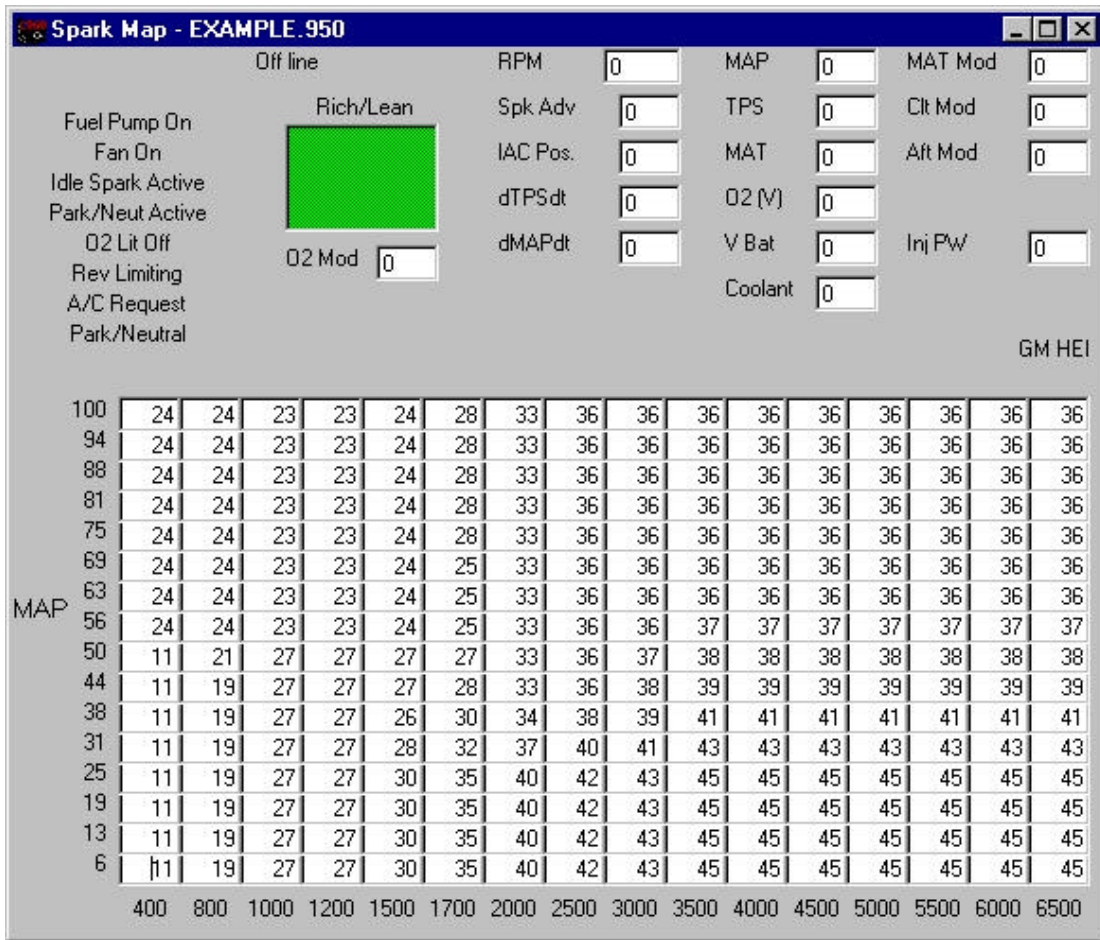

Figure 24 Poor Spark Map at Idle
- B. The next thing that greatly contributes to a smooth idle is having a fuel and spark map that is smooth in the area that the engine idles. Note the map (**Figure 23**) above, the timing at idle is not flat. This causes the timing to fluctuate and will make the engine surge. The spark map (**Figure 24**) below shows poor mapping at idle. If the engine was to idle at 850 rpm at 44 kPa, the timing could be jumping between 11, 19, and 27 between the speeds of 400 to 1000 rpm. The area at which an engine idles should have a relatively flat timing area. It is fine to add advance as the rpm increases, but when an engine is idling, the timing should not vary due to the map.